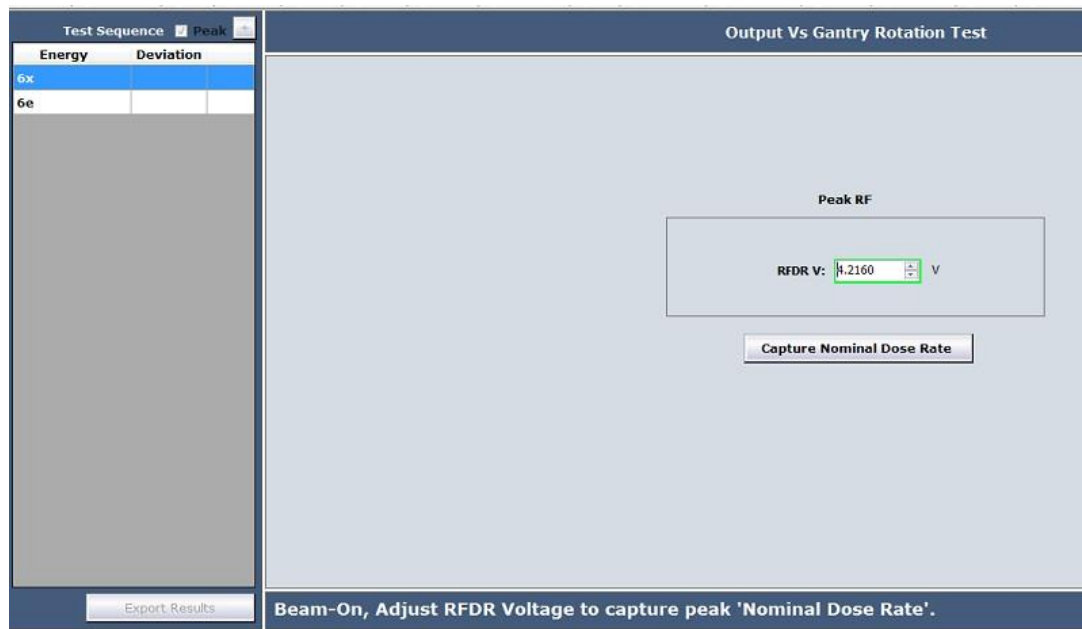

Figure 15: Screen to Capture Nominal Dose Rate at Gantry Head Up
7. Beam on and allow dose rate to stabilize. Press “Capture Nominal Dose Rate” to proceed. (see Figure 15)